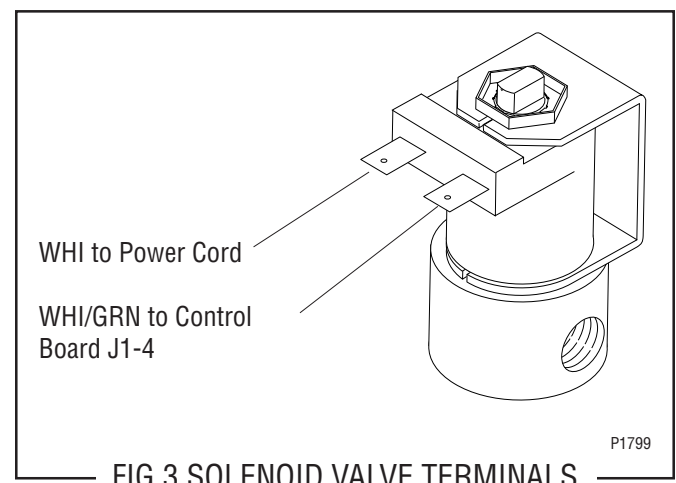

FIG.3 SOLENOID VALVE TERMINALS
10. Refer to Fig. 3 when reconnecting the wires.